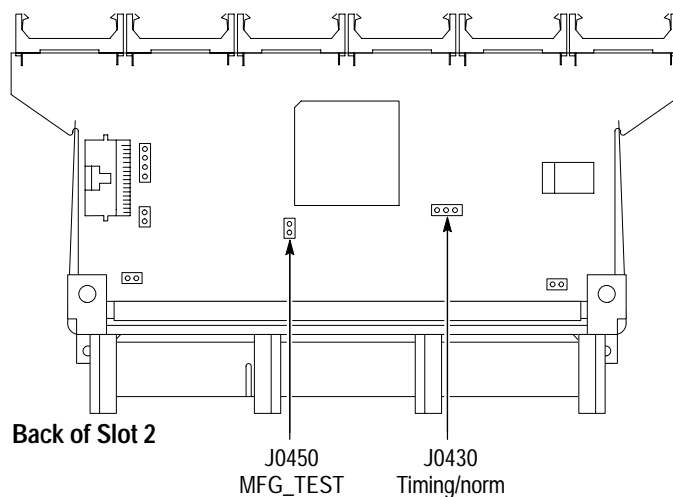

Figure 1–4: Jumper locations on the SC330 probe adapter
**Jumpers** The probe adapter uses jumpers to acquire data for disassembly or for timing. Figure 1–4 shows the location of the jumpers.
**Test Points** Additional test points on the SC330 probe adapter allow alternate ways of probing for information as shown on Figure 1–5. Table 1–1 lists the test points on the SC330 probe adapter.